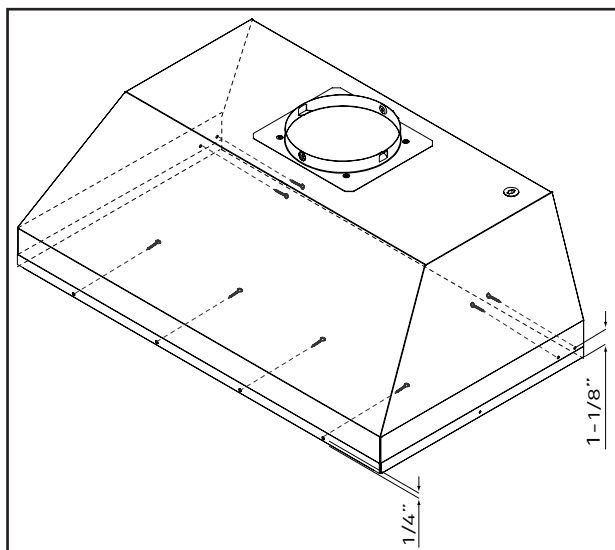

FIG. 3
4. Lift liner into bottom opening of cabinet and secure to interior of cabinet using (8) #8 x 1/2" stainless steel screws; (4) screws in the front and (4) screws in the sides. FIG. 3.